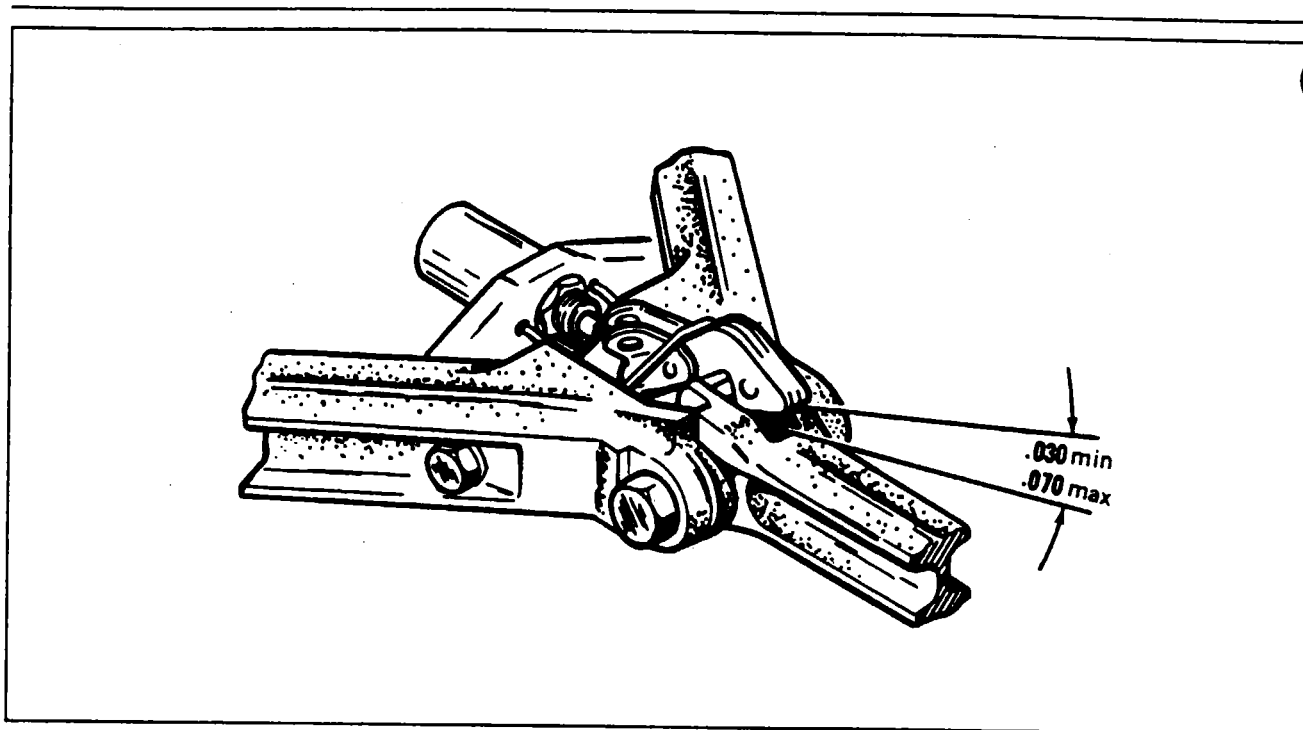

Figure 7-10. Adjusting Main Gear Down Limit Switch
7-39. ADJUSTMENT OF MAIN GEAR DOWN LIGHT SWITCH. (Refer to Figure 7-10.)
2. With hook raised, place a 0.070 of an inch wire feeler gauge between the hook and bottom surface of the slot in the side brace link. (Refer to Figure 7-10.)